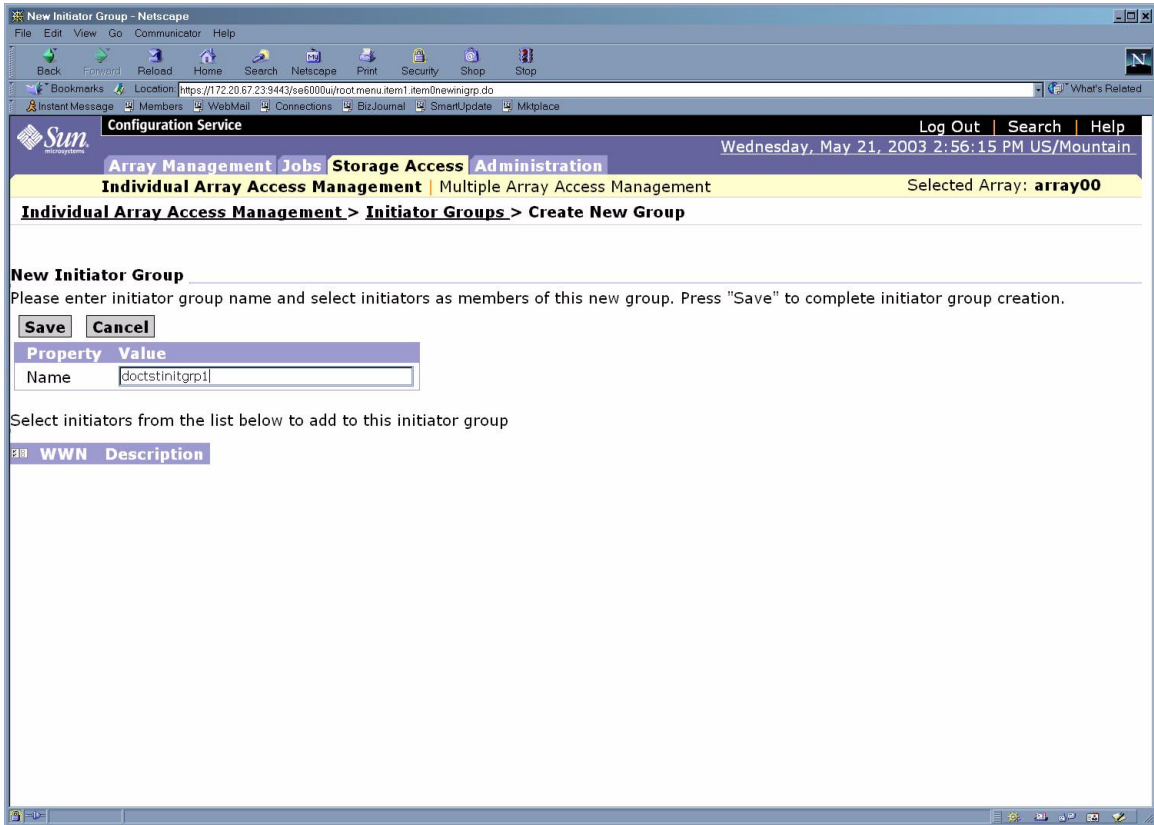

FIGURE 6-28 Create New Initiator Group Page
7. Click **Create** and the **Create Initiator Groups** screen is displayed as shown in **FIGURE 6-28**.